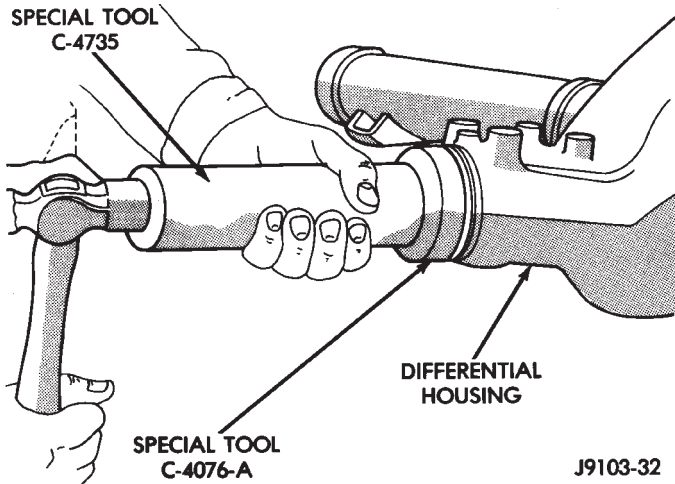

Fig. 32 Pinion Seal Installation
(5) Install pinion front bearing, and oil slinger, if equipped.
(6) Apply a light coating of gear lubricant on the lip of pinion seal. Install seal with Installer C-4076-B and Handle C-4735-1 (Fig. 32).